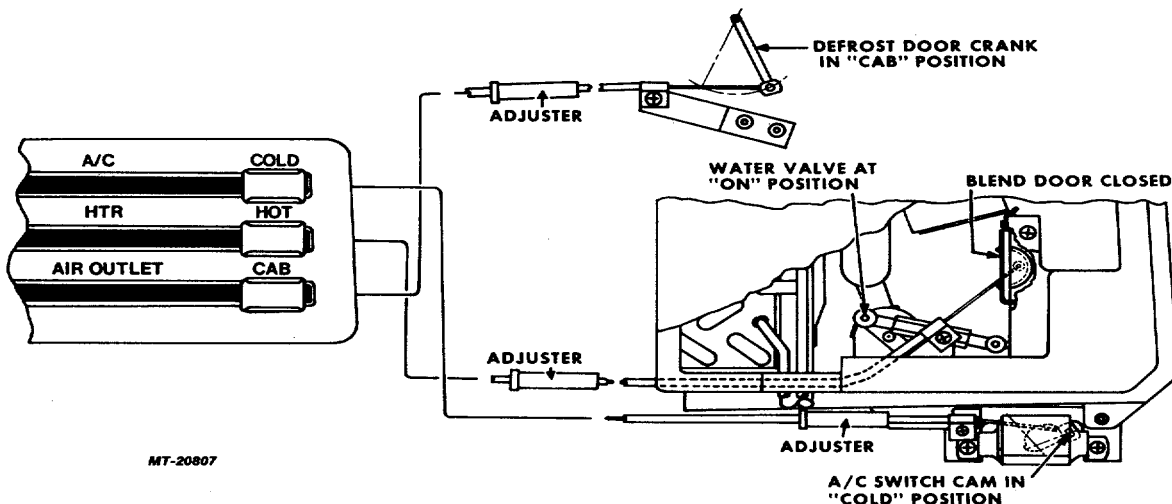

Fig. 45 Control Cable Adjustment Positions
- a. Remove cable mounting screw from thermostatic control switch bracket (Fig. 45).
- a. Remove control cable mounting screw from cable mounting bracket (Fig. 45).
- a. Remove control cable mounting screw from mounting bracket (Fig. 45).
CONTROL CABLE ADJUSTMENT (Refer to Figure 45)